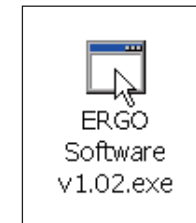

Figure 3.8
2. Double-click the ERGO Software .exe file. (Figure 3.8)